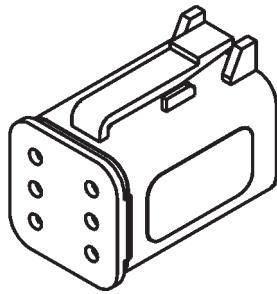

Figure 16
**Termination resistor (figure 16)**